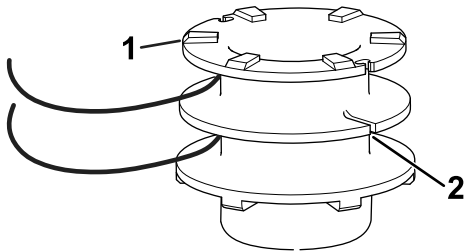

Figure 16
4. Insert the string into the anchor slot in the upper part of the spool (Figure 16). Wind the string onto the spool in the direction shown by the arrows on the spool.